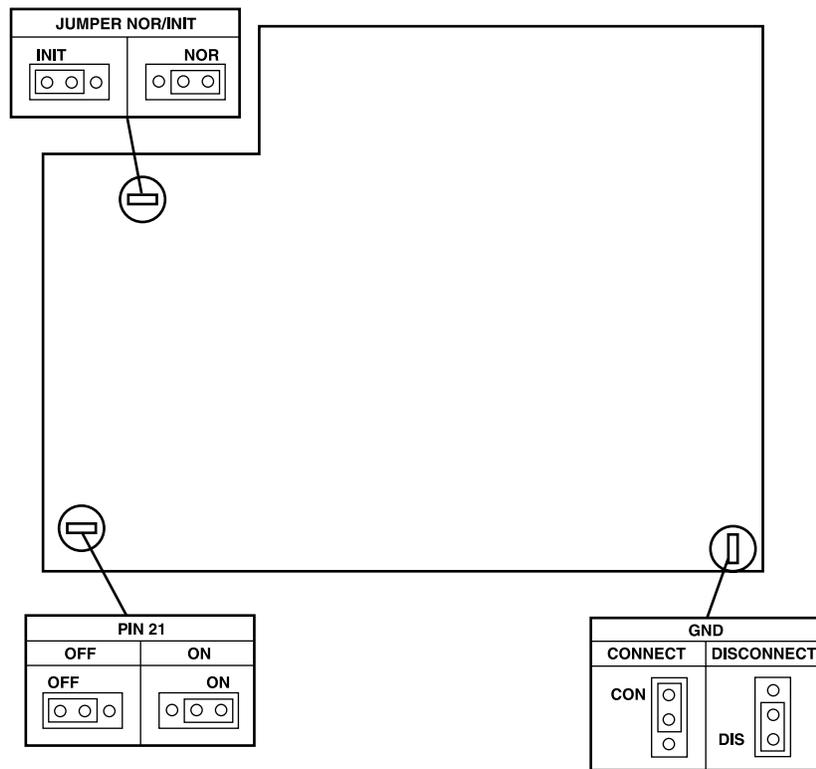
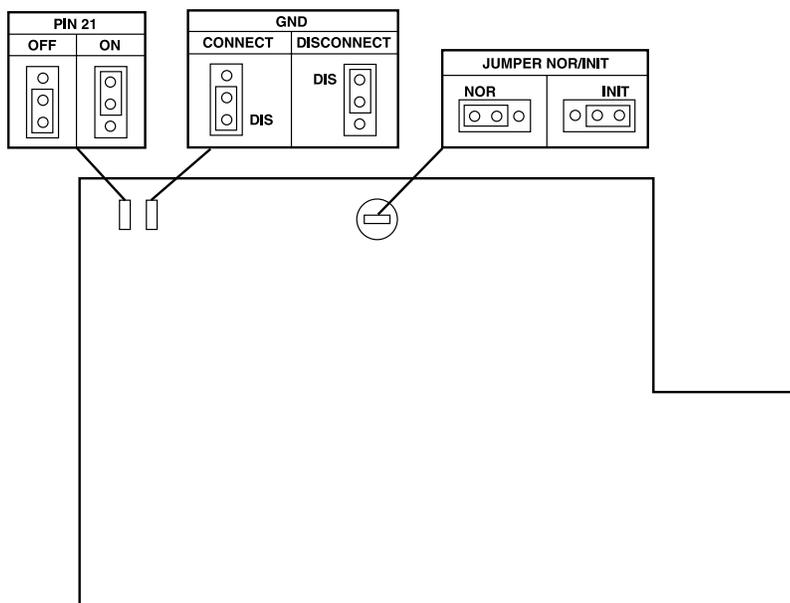

Figure 3-1. Stat-4 and Stat-8 internal jumpers.
Figure 3-2. Stat-24 internal jumpers.
General. The Stat-4, Stat-8, and Stat-24 have three internal jumpers. Refer to Figure 3-1 for Stat-4 and Stat-8 and to Figure 3-2 for Stat-24, and use the following description.
2. Refer to Figure 3-1 or 3-2 and identify jumper locations and settings. Change the settings as required.